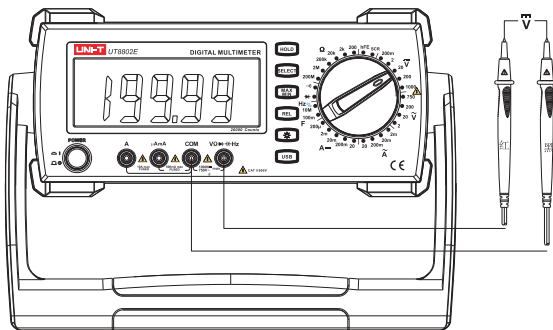

Figure 1
1. Measurement of DC voltage (see Figure 1)